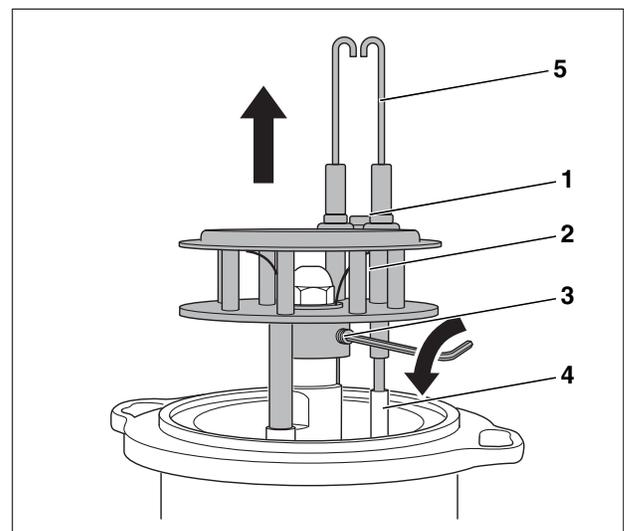

Fig 26 Disassembly of mixing system/diffuser plate
- Loosen and remove screw between the ignition electrodes (Fig. 26, **Item. 1**).
- Remove ignition cables (Fig. 26, **Item. 4**).
- Remove ignition electrodes (Fig. 26, **Item. 5**).
- Loosen locking screw (Fig. 26, **Item. 3**) and slide the mixing system/diffuser (Fig. 26, **Item. 2**) upward.